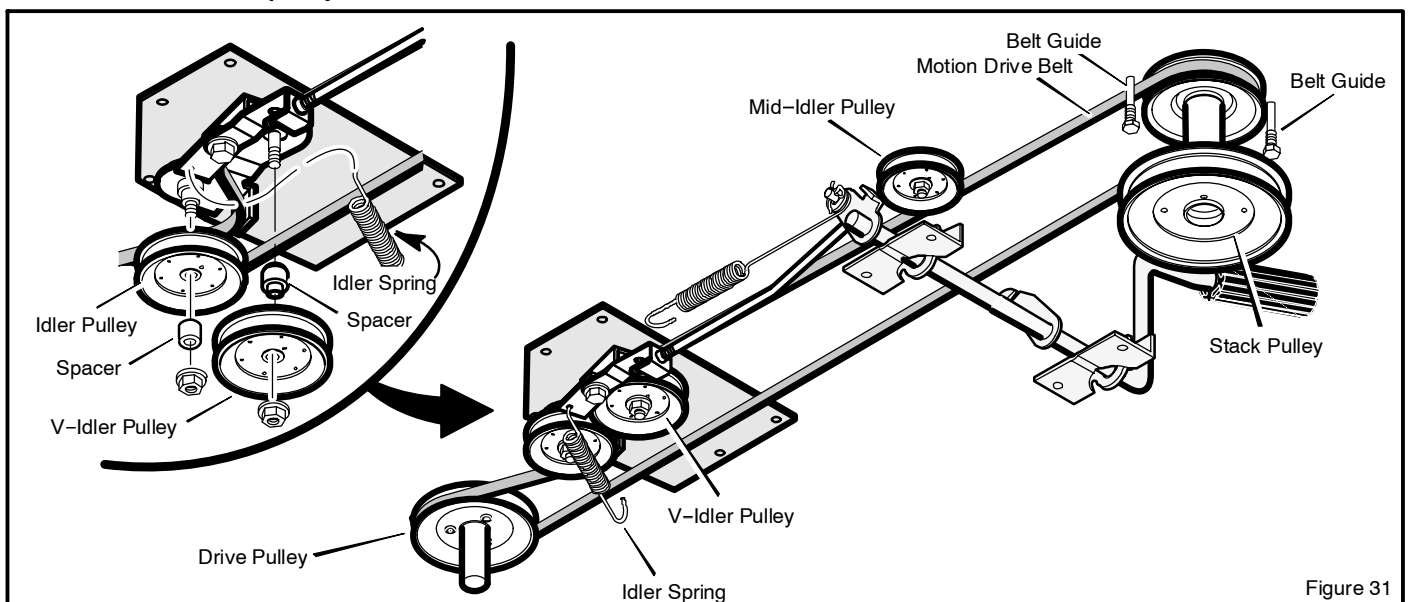

Figure 31
3. Disconnect the **idler spring** (Figure 31).
4. Remove the **idler pulley** and **spacer** (Figure 31).
6. Remove the **motion drive belt** from the **drive pulley** (Figure 31).
3. Install the end of the **motion drive belt** around the **drive pulley** (Figure 31).
6. Connect the **idler spring** (Figure 31).
8. Check the routing of the motion drive belt (Figure 31). Make sure the **motion drive belt** is installed correctly on the **idler pulleys** and inside all **belt guides**.